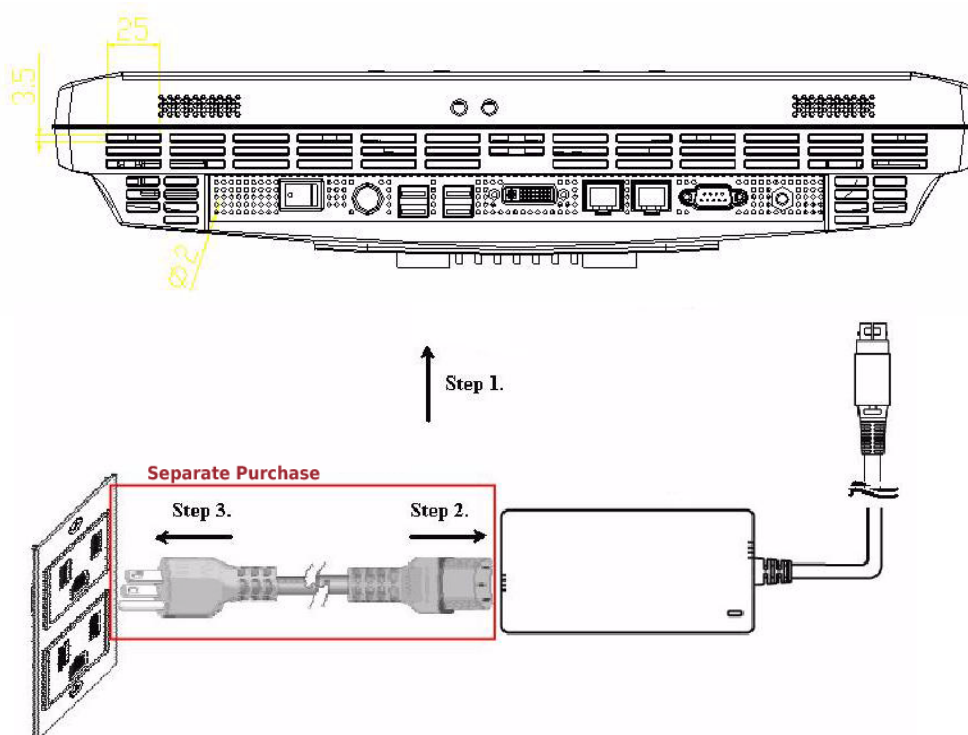

Figure 2.3 Connecting the power cord
1. Connect the female end of the power adapter to the DC jack of the panel PC. (See Figure 2.3.)